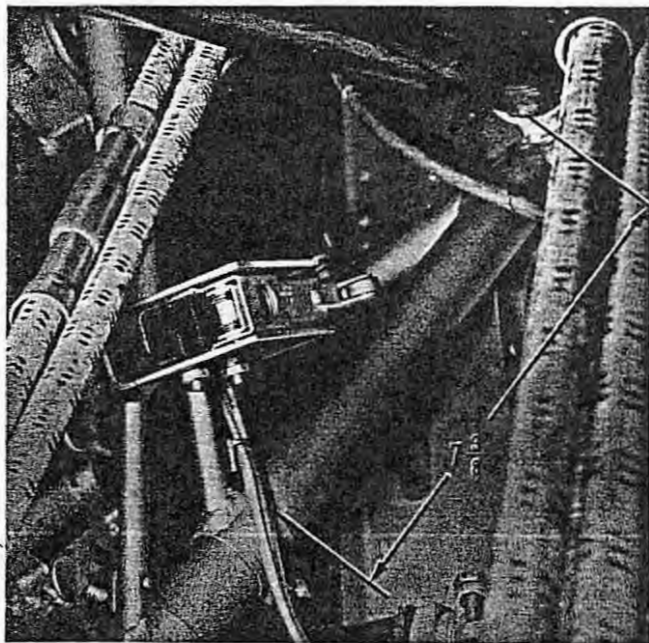
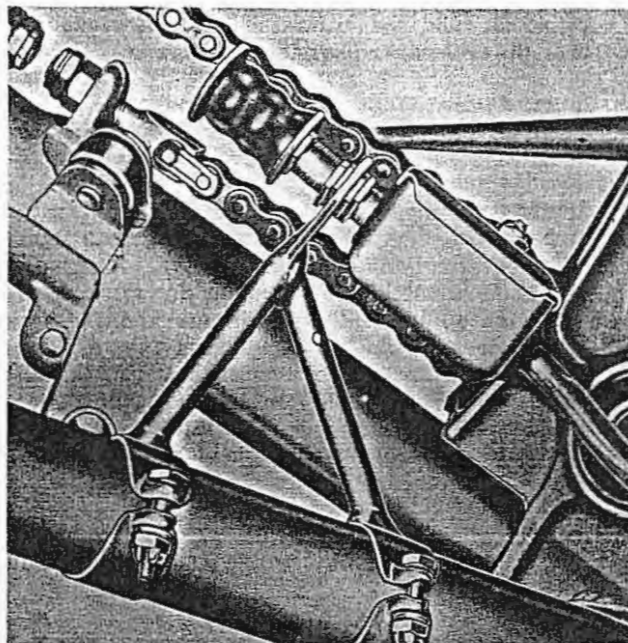

Figure 2-93. Upper Limit Switch
Figure 2-94. Lower Limit Switch
2-365. DESCRIPTION. The travel of the landing gear is controlled by two limit switches which are mounted on the truss assembly in the left nacelle. They control the landing gear motor through the dynamic brake relay. The upper limit switch is mounted on the truss tube near the top of the nacelle (figure 2-93). The switch is operated by an actuator wedge mounted on the upper attaching bolt of the oleo drag leg and regulates the travel of the gear as it is being retracted. The lower limit switch is located at the lower end of the left landing gear slide tube (figure 2-94). It is operated by a lug mounted on the
- c. Position upper limit switch bracket on truss member so the front edge of the forward mounting clamp on the bracket is 7-3/8-inches from the upper stop (figure 2-93). Tighten bolts just sufficiently to secure bracket, so that it will move when struck a firm blow with a rubber or rawhide mallet.
- c. Position upper position indicator switch bracket on truss member so the front edge of the forward mounting clamp on the bracket is 7-3/8-inches from the upper stop (figure 2-93). Tighten bolts just sufficiently to secure bracket so that it will move when struck a firm blow with a rubber or rawhide mallet.